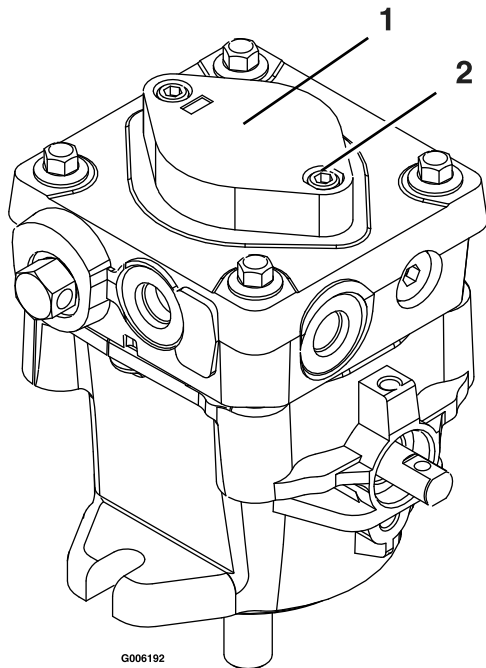

Figure 13
main pump as shown in Figure 13) may have lost their “prime”. Refer to **Hydraulic System Air Purge** section.
The critical area for purging air from the hydraulic system is between the oil reservoir and each charge pump located on the top of each variable displacement pump (Figure 13). Air in other parts of the hydraulic system will be purged through normal operation once the charge pump is “primed”.
5. To “prime” charge pump, loosen two hex socket head capscrews (shown in Figure 13) **1 1/2 turns only. Make sure engine is not running.** Lift the charge pump housing upward and wait for